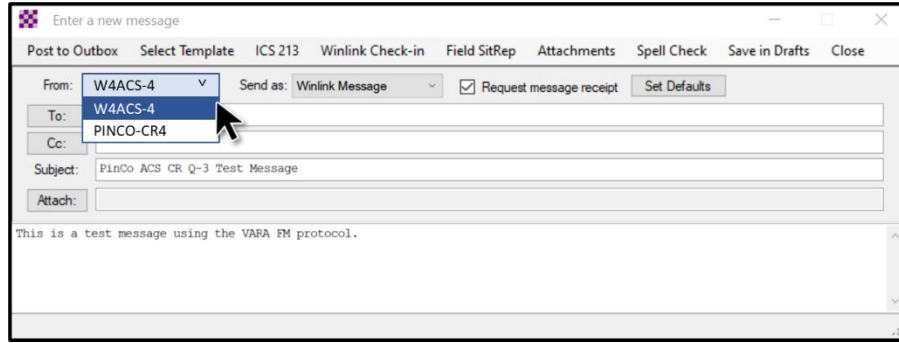

Figure 5. Winlink Call Sign Selection
- (1) From: Use the pull-down menu to select the **Winlink call sign** for the unit under test. Refer to Table I for call sign information and Figure 5 for call sign selection window location.
- (2) Send as: Winlink Message.
- (3) Request message receipt: Check this box.
- (4) To: W4ACS
- (5) Subject: PinCo ACS CR Q-4 Test Message
- (6) Message text: This is a test message using the VARA HF protocol and the Command Runner amateur radio call sign.
- (1) From: Use the pull-down menu to select the **Winlink Tactical Address** for the unit under test. Refer to Table I for Tactical Address information and Figure 5 for call sign selection window location.
- (4) To: PINCO-EOC
- (5) Subject: PinCo ACS CR Q-3 Test Message
- (6) Message text: This is a test message using the Pactor protocol and Command Runner Winlink Tactical Address.